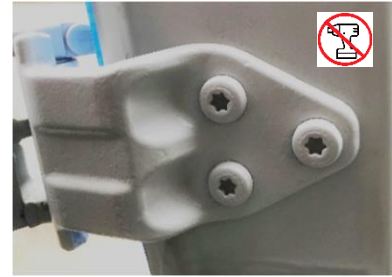

Figure 6: Top Hinge View
15. Remove all three bolts connecting the lower hinge to the door (Figure 6).
17. Install the bracket around the hinge in the correct orientation (Figure 6).